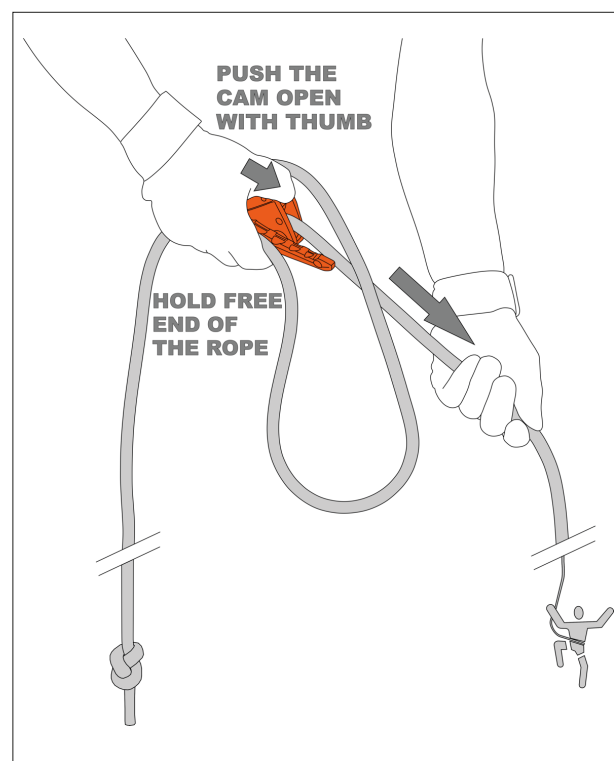

Figure 1b: paying the rope out
5. Pay the rope of the safety line out by holding the free end and pushing the cam open with the thumb (figure 1b). Pull the rope with the other hand. Always hold the free end of the rope during manipulation. Allow as little slack on the safety line as possible, and never more than one arm length.